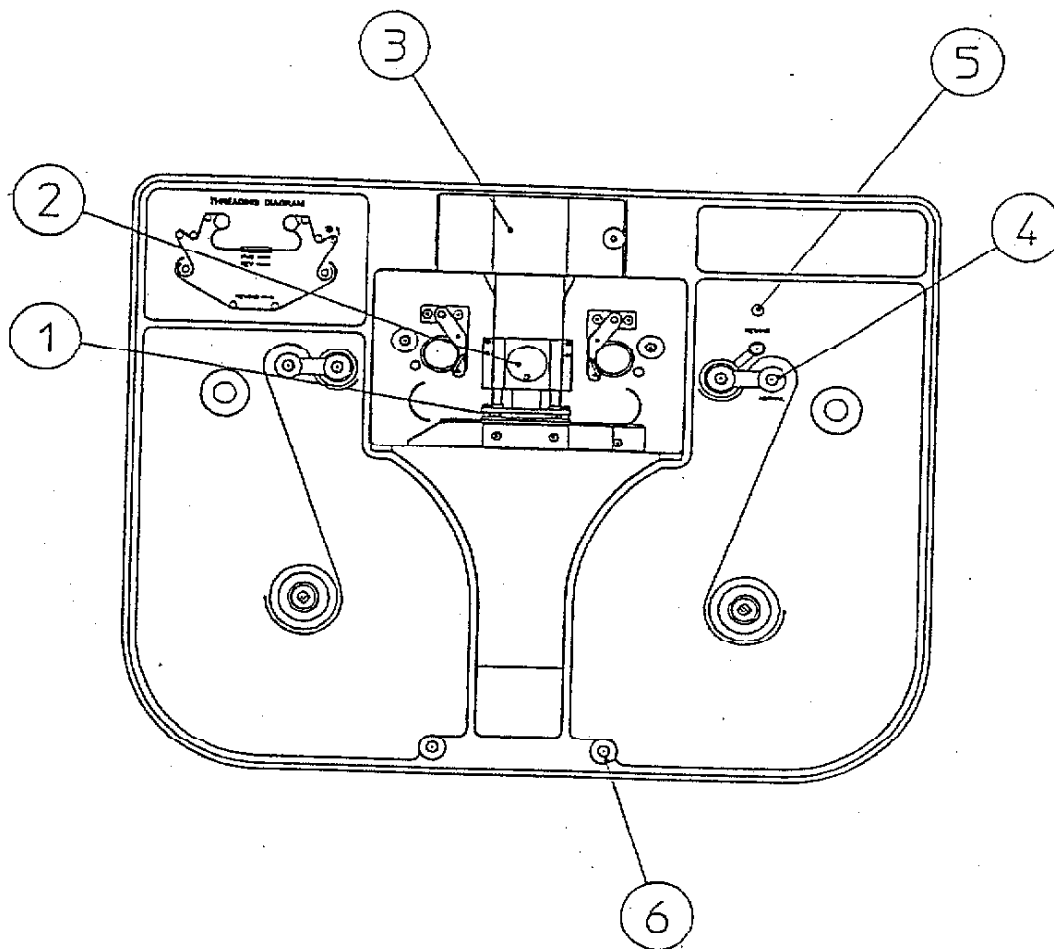

Fig. 1-1 Film Threading Path Components
1.1 Film Threading Path Components (Fig. 1-1)
- ① Pressure Plate : This spring-loaded Pressure Plate properly presses the film against the Aperture Plate, when it is in the closed position. Opening and closing of the Pressure Plate is controlled by the Knob above the Plate.
- ② Pressure Plate Knob : Rotate this Knob to raise (opening) or lowering (closing) the Pressure Plate. The Knob can be rotated in either direction. Set the indicator on the Knob to upper (open) or lower (close) position. Do not set it at an intermediate position.
- ③ Lamp Cover : The projection lamp, the cold mirror, optical filters and the blower are located inside the Cover. The Cover can be removed by loosing the two screws on the cover, which facilitates cleaning and lamp replacement.
- ④ Right Tension Roller : The Arm of this Roller is used for the rewind mode. Set the Arm to the REWIND position by swinging counterclockwise.